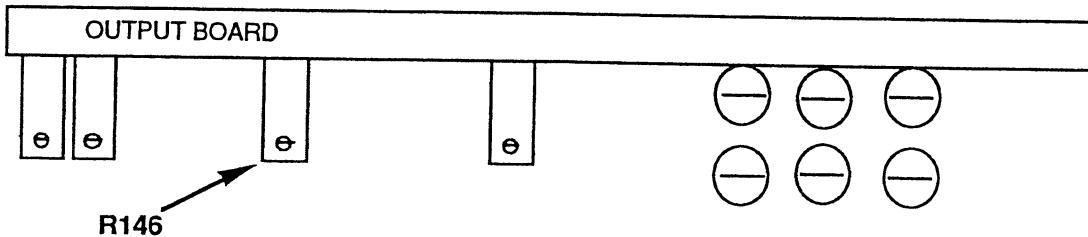

Figure 4-7. R146 Locator
3. View the carrier null signal on the scope. If necessary, slide the cover back and adjust R146 (see figure 4-7) to center the display. Then use the Knob to adjust for best square